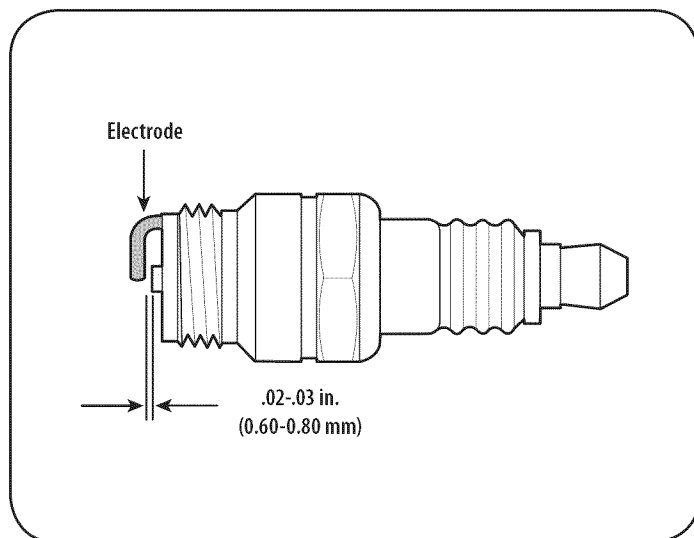

Figure 17
3. Measure the plug gap with a feeler gauge. Correct as necessary by bending side electrode. See Figure 17. The gap should be set to .02-.03 inches (0.60-0.80 mm).